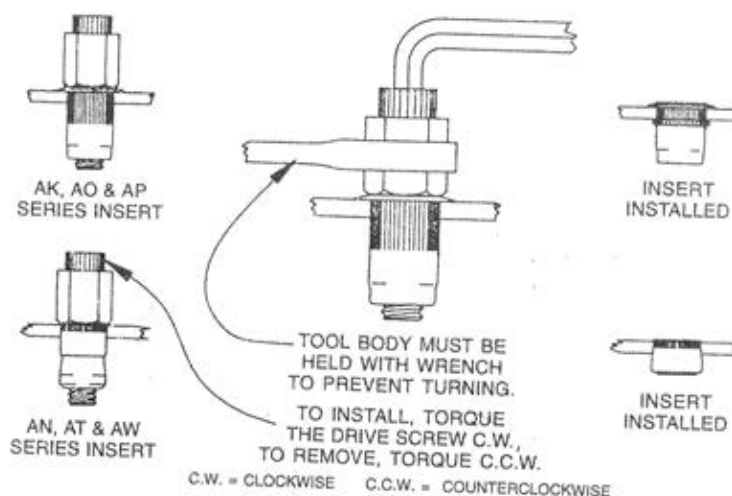

fig. 4
2. Assemble the nutsert and nutsert tool together and insert into 17/32" hole. Follow the provided instructions to attach the nutsert to the vehicle (fig. 4).